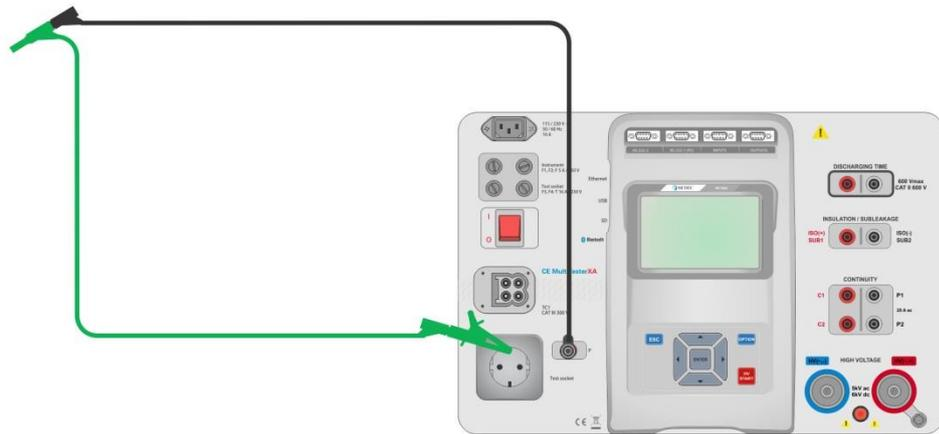

Figure 6.12: Shorted test leads
- › Connect test leads to the instrument and short the test leads together, see *Figure 6.12*.